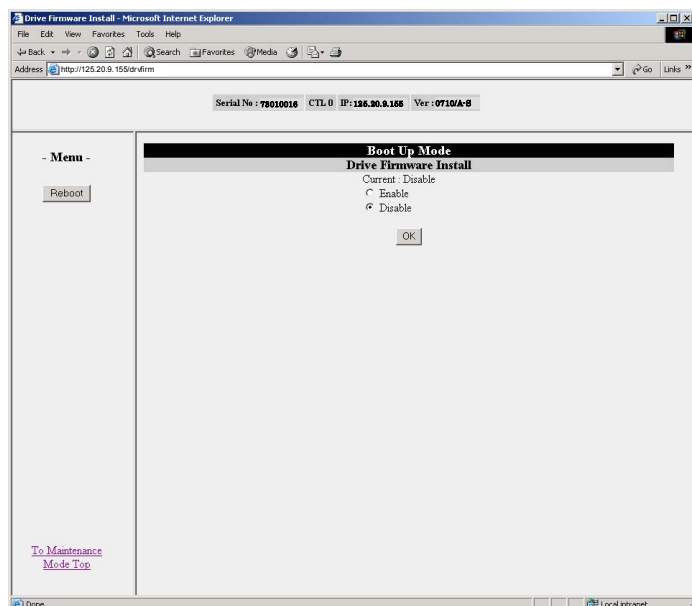

Figure 15.6.12 After Booting (Boot Up Mode)
- (4) When Figure 15.6.12 is displayed, select [Enable] on the [Boot Up Mode] and click the [OK] button.